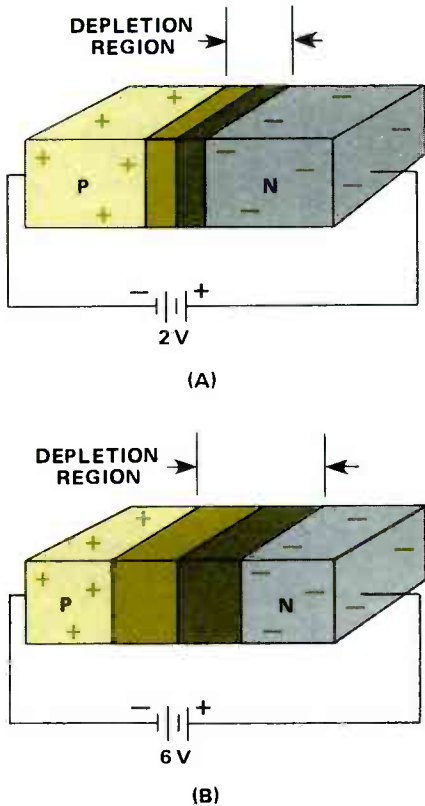

FIGURE 4. PN JUNCTIONS SHOWING THE EFFECT OF REVERSE BIAS ON THE WIDTH OF THE DEPLETION REGION.
We know that the value of a capacitor is dependent upon (among other things) the distance between its plates. Increasing this distance decreases capacitance and vice versa. Referring to Fig.4(A) you can see that we have applied a small reverse bias to a pn junction. The result is that the current carriers in the p-type and n-type materials are drawn away from the junction, effectively widening the depletion region. This means that there is a greater distance between the “plates” and, therefore, decreased junction
capacitance. In Fig.4(B) a larger reverse bias is applied, which widens the depletion region still more and further decreases junction capacitance. If we decrease the reverse bias, the depletion region narrows, the “plates” are closer together, and the capacitance increases.